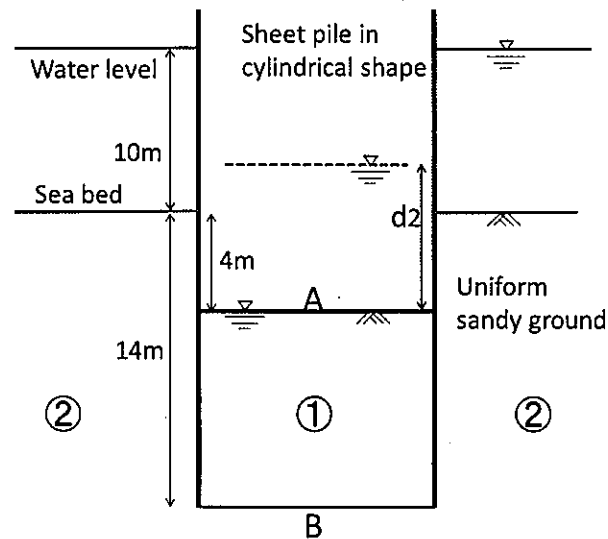

Figure 2
- At the state of a), as an urgent countermeasure to stabilize area ①, water was put inside. Then the excavation was continued to 4m below the sea bed as shown in Figure 2. Calculate the water level, d_2 (m), required for stabilizing area ①.